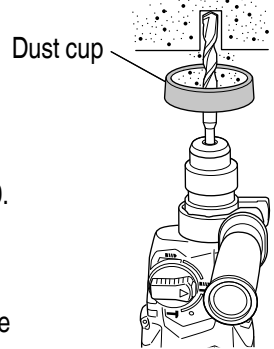
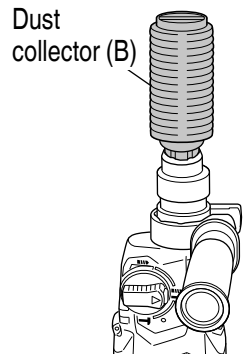

Fig. 9
Fig. 10
(Optional accessories) **(Fig. 9, Fig. 10)**
Use the dust cup by attaching to the drill bit as shown in **Fig. 9**.
- Installing dust collector (B)
When using dust collector (B), insert dust collector (B) from the tip of the bit by aligning it to the groove on the grip. **(Fig. 10).**